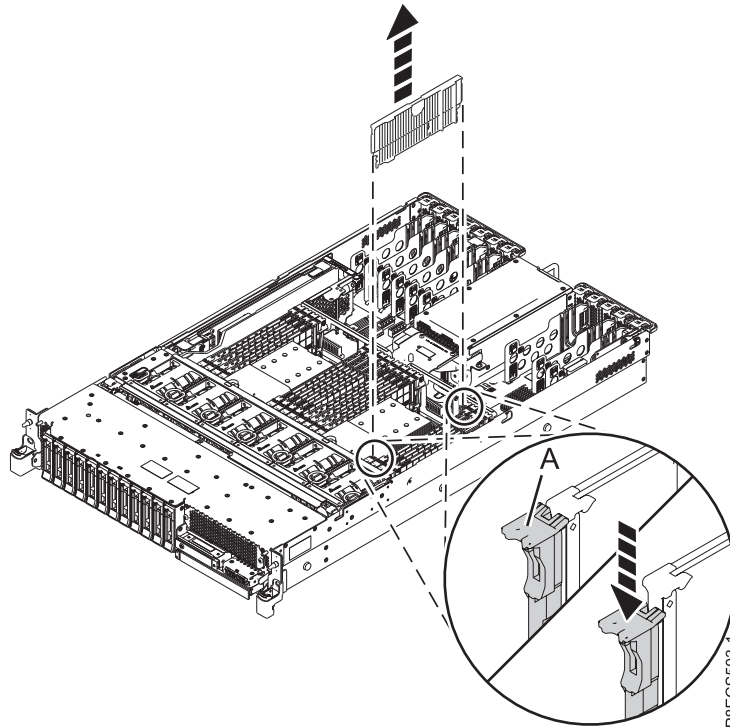

Figure 7. Removing a memory module filler from the memory module slot in an 5148-21L, 5148-22L, 8247-21L, 8247-22L, 8284-21A, or 8284-22A system
- a. To unlock the memory module filler from its connector in the slot, push the locking tabs **(A)** in the direction that is shown in Figure 7. The lever action of the tabs forces the memory module filler out of the connector.